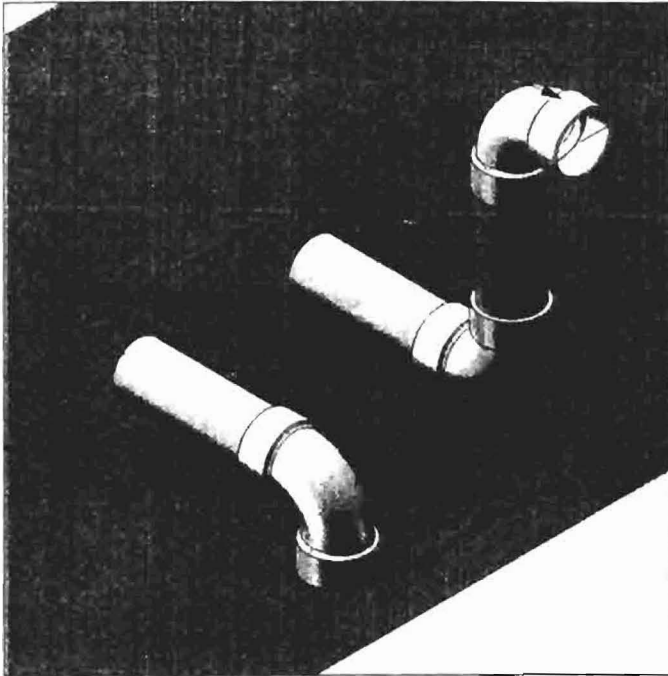
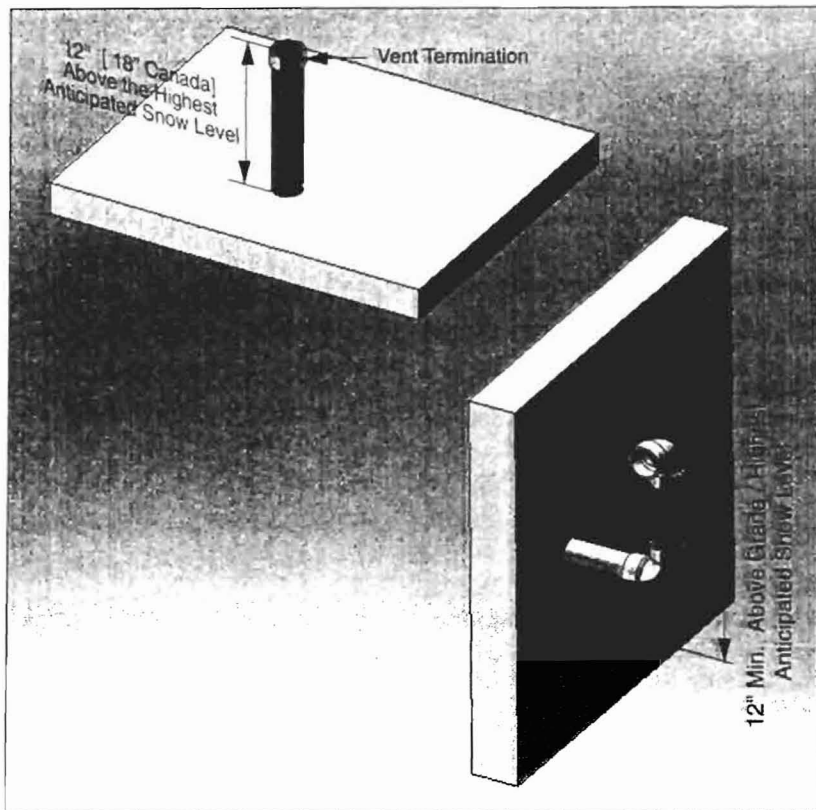

Fig. 8: Direct Vent - Sidewall Termination of Vent and Combustion Air Piping
Fig. 21: Direct Vent - Vertical Vent and Side Wall Combustion Air
2. The combustion air piping must terminate with a 90° elbow. Fig. 21 shows a snorkel termination option. The combustion air pipe can also terminate using a 90° elbow directed down or to the left or right as shown in figures 8 or 13 page 11 or 12. The termination must be installed 12" minimum above grade / highest anticipated snow level and as shown in Fig. 8 page 11 or Fig. 13 page 12 or Fig. 21.